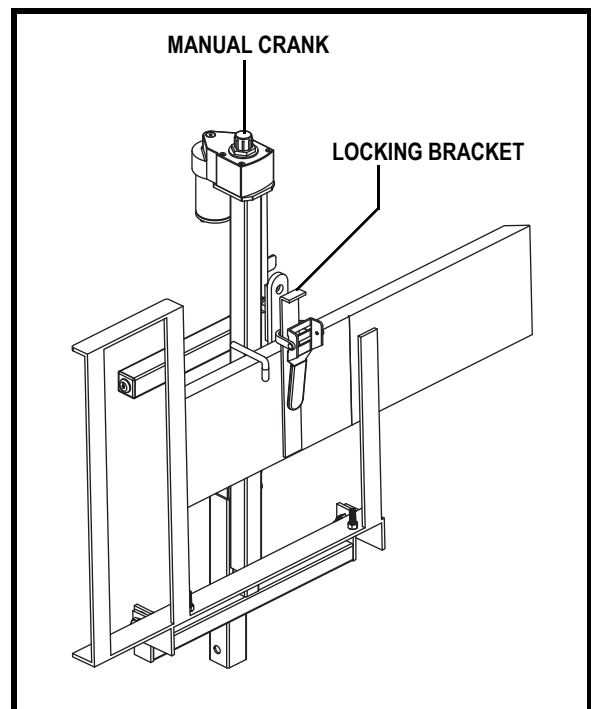

Figure 8. Platform Storage
3. Pivot the platform to a vertical position, then raise the lift until the platform is secured in the stowed position by the locking bracket. **See figure 8.**
The lift system is equipped with a manual crank that serves as backup in the event of a power failure. Using the supplied tool, rotate the manual crank (located on top of the motor housing) clockwise or counterclockwise to move the platform up or down. **See figure 8.**